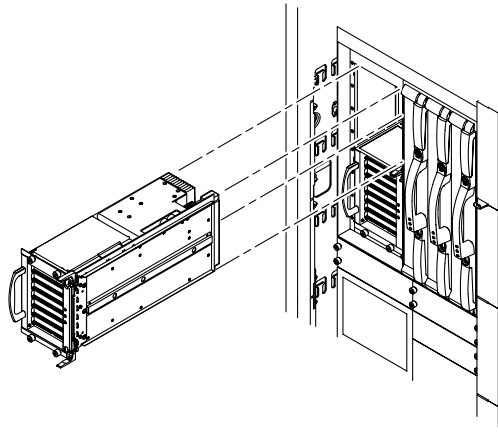

FIGURE 9-5 Removing or Inserting an I/O Assembly—Sun Fire 4810 System
8. Slide the I/O assembly out of the I/O assembly opening (FIGURE 9-5).
4. Slide the I/O assembly into the I/O assembly opening (FIGURE 9-5).